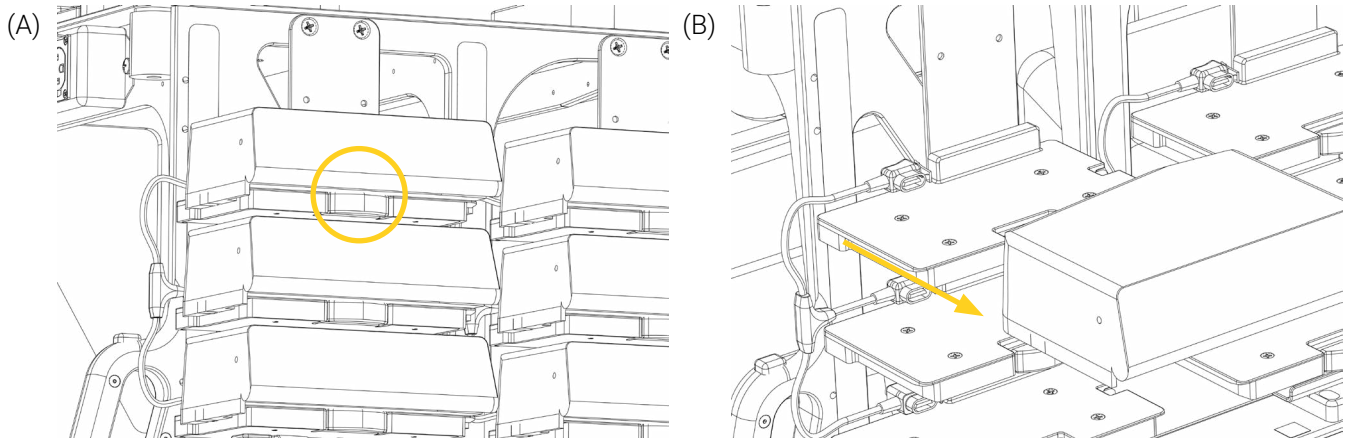

Figure 19: Removing the B. Braun Infusomat Space infusion pump
2. Holding both sides of the pump, use your thumb to press and hold the quick release button located at the front of the holder to disengage the pump (Figure 19 A).
3. Pull and slide the pump outwards to remove it from the pump holder (Figure 19 B). Set the pumps aside.